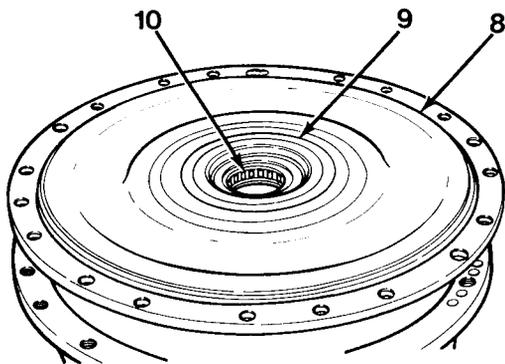

Figure 11-2
2. Remove 20 nuts (5), washers (6), capscrews (7) and front cover (8).
3. Remove seal (9) and bearing (10) from front cover (8, Figure 11-2),